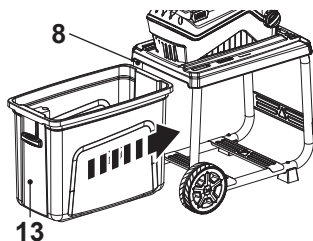

Fig. 5
1. Insert the collection box (13) into the frame (8) (Fig. 5).